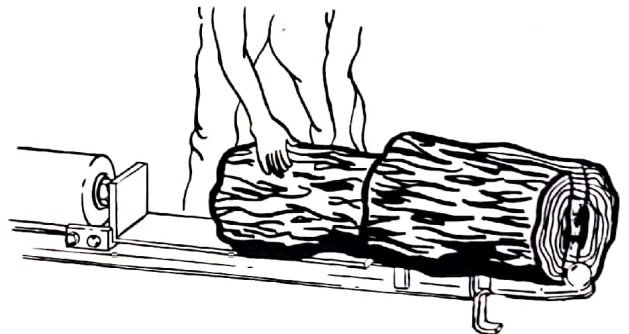

Figure 13
**Step 6)** If cylinder rod is fully extended and log is not completely split, retract cylinder rod. Place a second log between plunger block and first log. Extend cylinder rod until log is completely split and continue on to split second log. (Fig. 13)